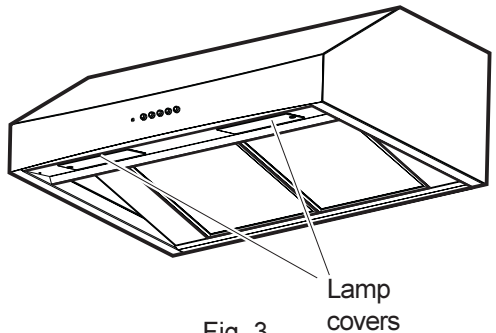

Fig. 3
- Remove the lamp cover (remove the screw that fixes the lamp cover) see Figure 3.